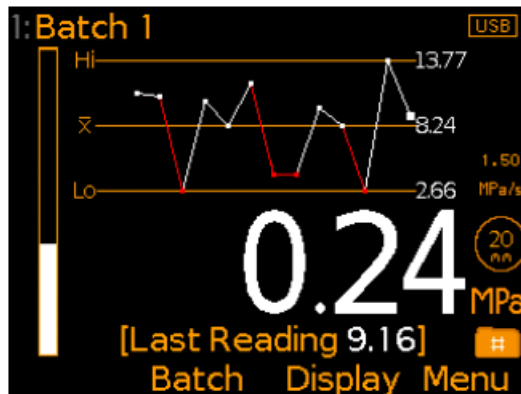

Fig. 3: Run Chart
- Run Chart (Fig. 3); A line trend graph of the last 20 measurements which is updated automatically after each reading.